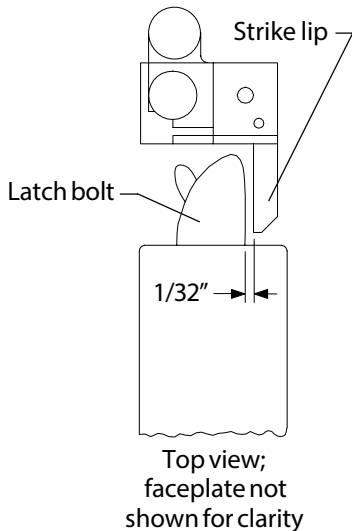

Figure 2
5. Install strike with two #12-24 screws. Make sure clearance between latch bolt and strike lip is 1/32" (Figure 2). If not, uninstall strike, adjust (Figure 3), and reinstall.